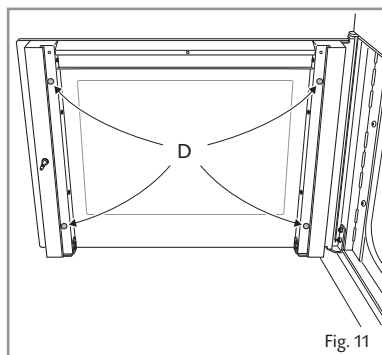

Fig. 11
- Check that the four rubber pads are in place ("**D**" in Fig. 11).